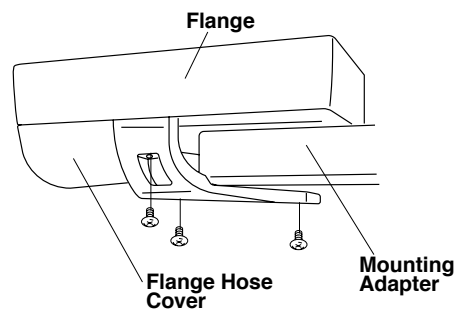

Fig.6-16 Fixing Flange Hose Cover
- D. Fix the flange hose cover with 3 x M5 truss screws. (Fig.6-16)